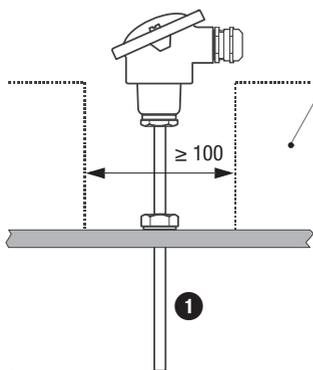
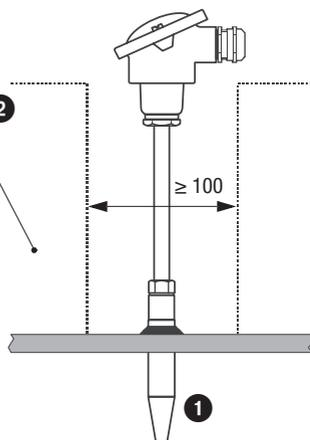
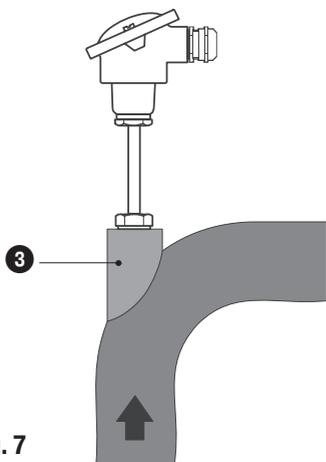
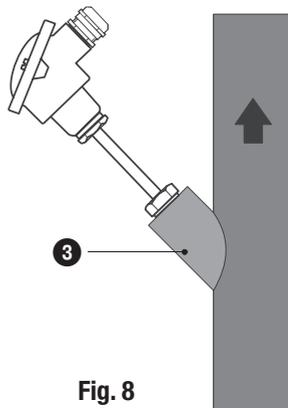

Fig. 5
Fig. 6
Fig. 7
Fig. 8
- When installing the electrode in pipes, weld the elbow onto the pipe, ensuring that the temperature sensitive part **④** of the temperature sensor is exposed to the fluid against the flow direction. **Fig. 7, Fig. 8**
- Make sure that the measuring tip of the temperature sensitive part **④** of the temperature sensor is always in contact with the fluid.
- Do not completely insulate the temperature sensors. See examples of installation **Fig. 5, Fig. 6**.